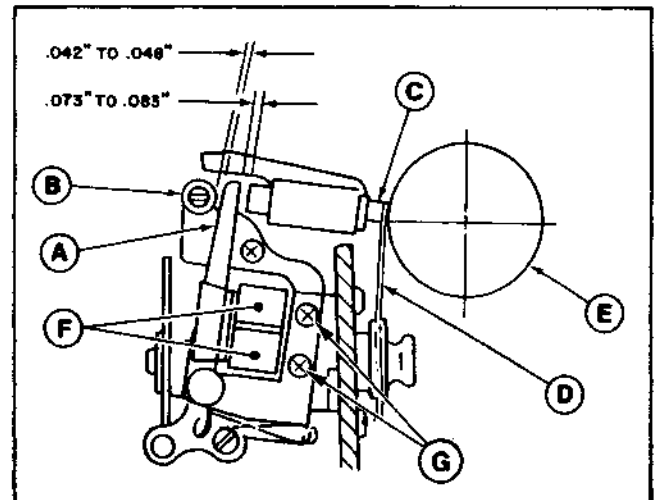

Figure 3-18. Hammer Adjustments
3.4.1.4.8 Hammer. There are two hammer adjustments: hammer coil position and armature stop eccentric. These adjustments are simplified when tool no. 40796 is used, but they can be performed without it if necessary. Refer to Figure 3-18.